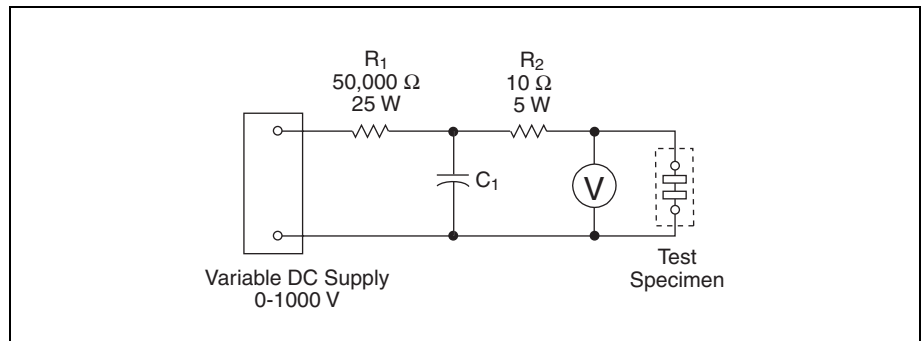

Figure 4.8 UL 497 Breakdown Voltage Measurement
- **Breakdown Voltage Measurement** — Arrestors are to be tested in the protector blocks or panels in which they are intended to be employed. Arrestors are required to break down within  $\pm 25\%$  of the manufacturer's specified breakdown rating. In no case shall the breakdown voltage exceed 750 V peak when subjected to the strike voltage test shown in Figure 4.8. At no time during this test will the supply voltage be increased at a rate greater than 2000 V/ $\mu$ s.